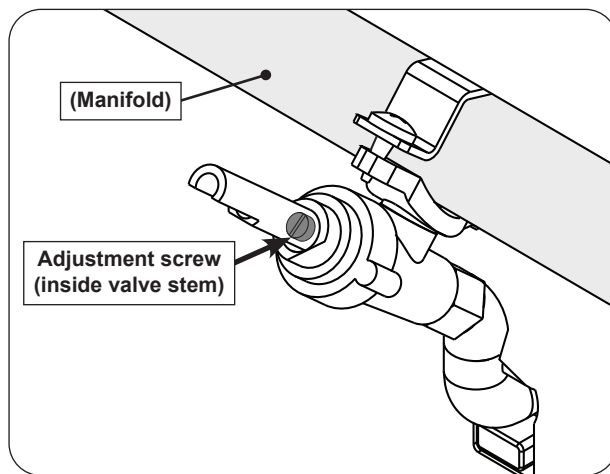

Fig. 50-1 Valve adjustment screw location
4. Locate the FLATHEAD adjustment screw found inside the valve stem (see Fig. 50-1).